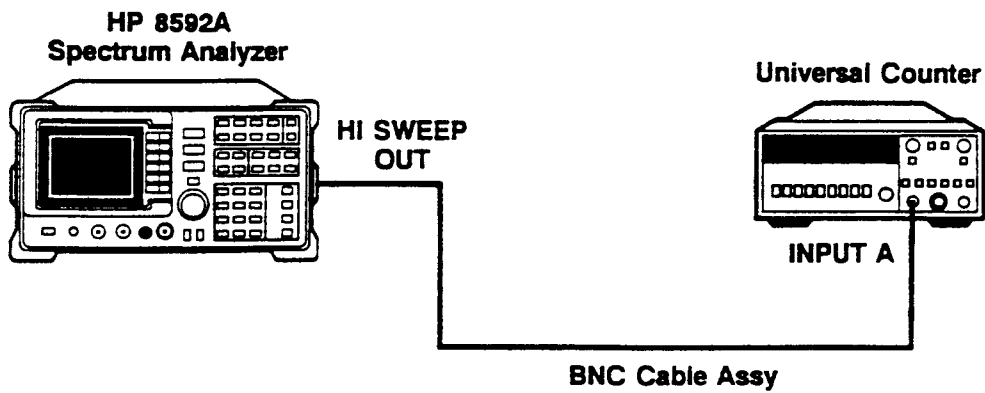

Figure 1-1. Sweep Time Accuracy Test Setup
1. Connect the equipment as shown in Figure 1-1.